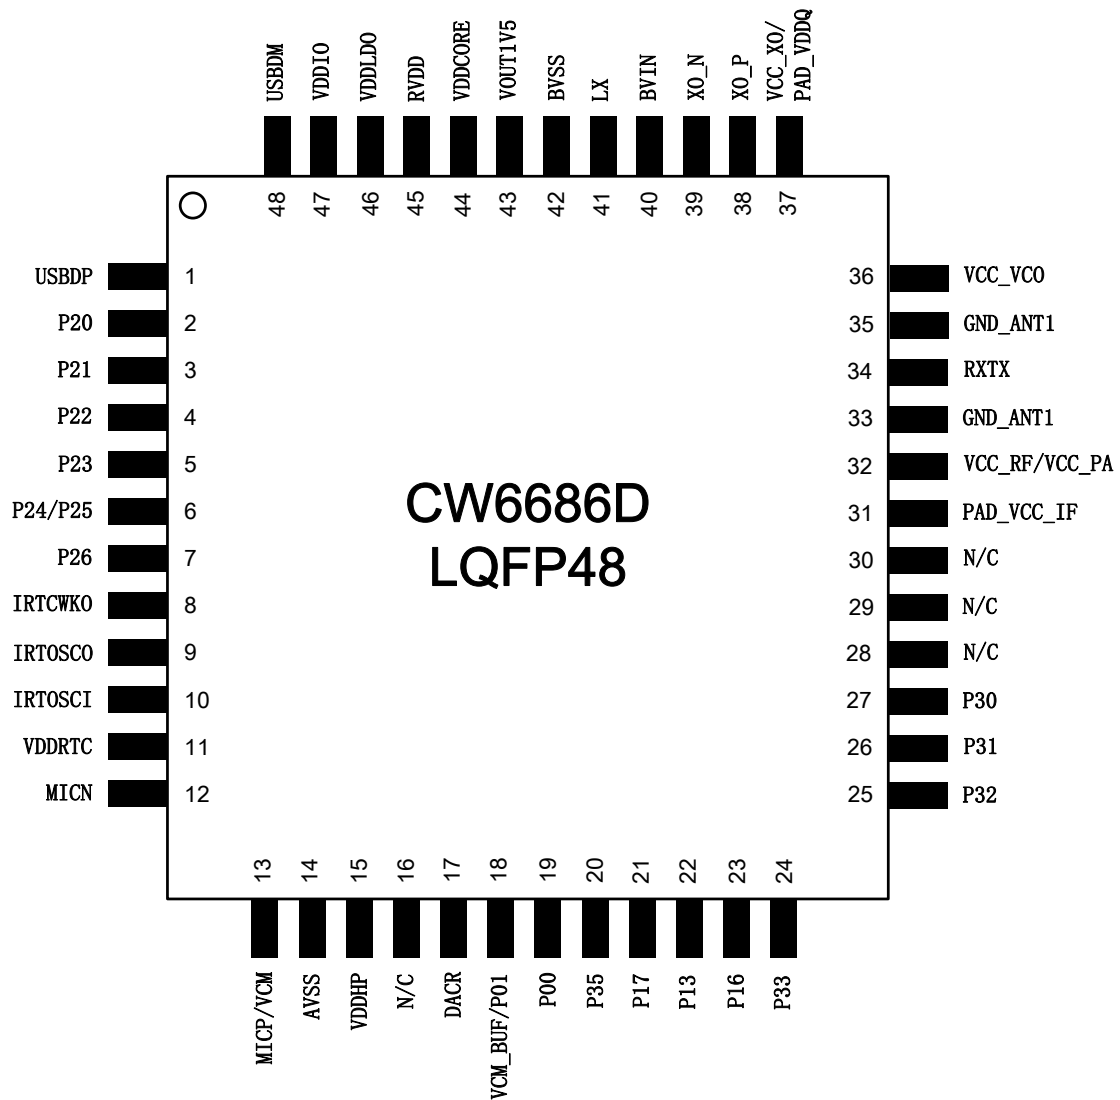

Figure 2-1 Pin Assignment of CW6686D
*Figure 2-1* shows the pin assignments of CW6686D.